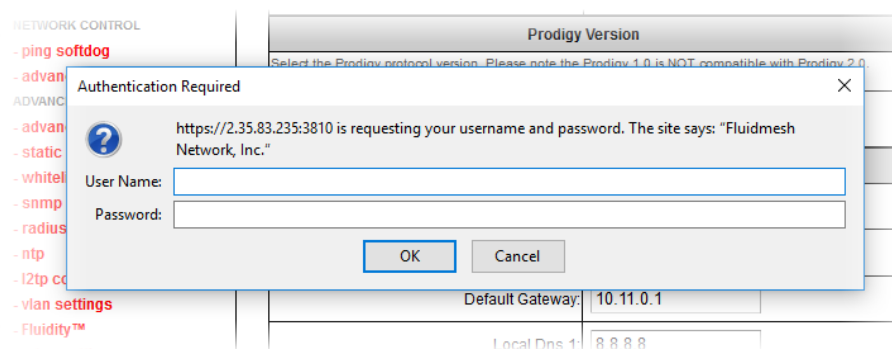

Figure 64. Web browser (Authentication Required dialog)
- The web browser will show the **Authentication Required** dialog (Figure 64 (page 149)). If needed, use the dialog to log in again.